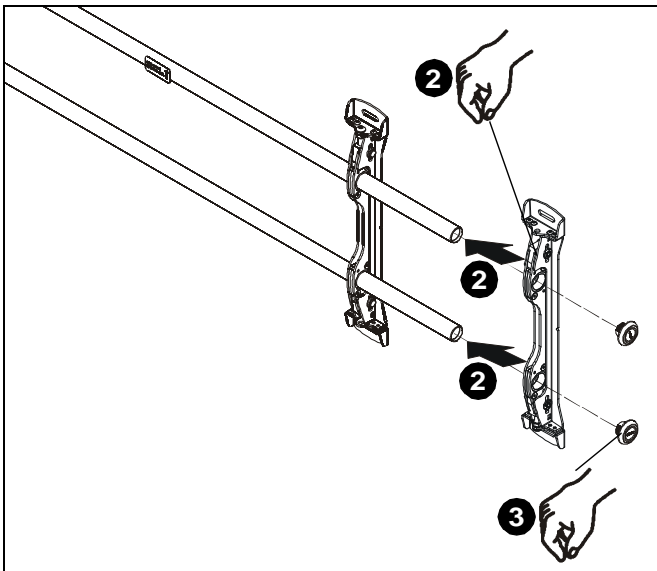

Figure 2
2. Slide FCA wall plate (A) onto XTM/XSM mount rails. (See Figure 2)
3. Reinstall caps onto mounting rails. (See Figure 2)
4. Position three wall plates 16" apart from each other on rails. (See Figure 2)